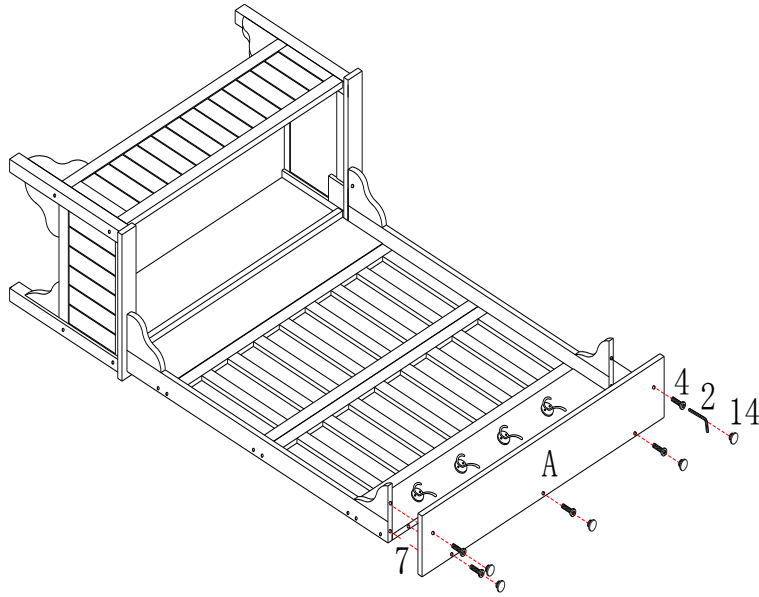
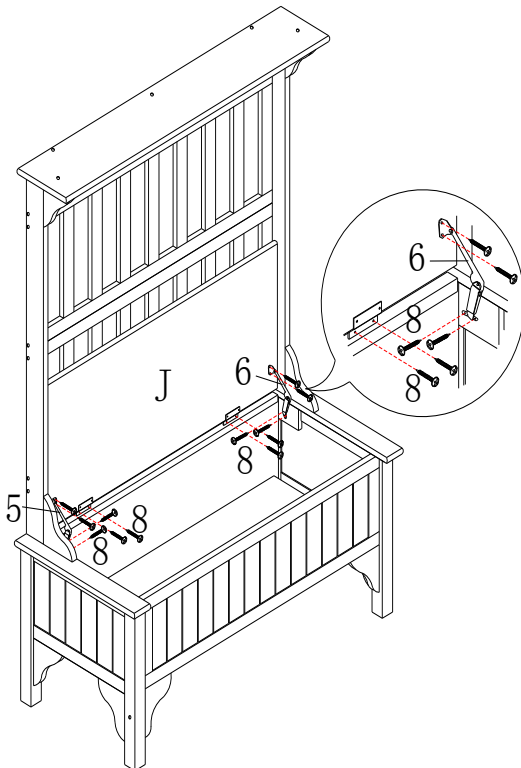

Figure 9
Figure 10
Use Screws (8) to connect Storage Lid (J) to unit from Figure 9 as shown in Figure 10.
Align Hinges (5 & 6) with Storage Lid (J) and unit from Figure 9. Attach Hinges (5 & 6) using screws (8) as shown in Figure 10.